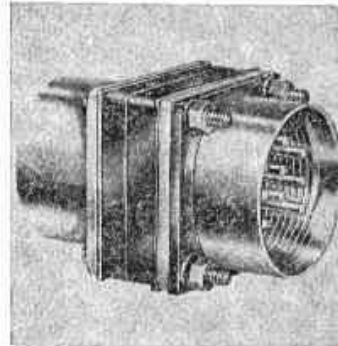

Fig. 9. Bulkhead unit, climatic-proof
22. In the stage 3 version (fig. 9 and 10), two rubber insulator gaskets (each on the pin face of the insulators) and a shell gasket were introduced to make the unit climatic-proof.